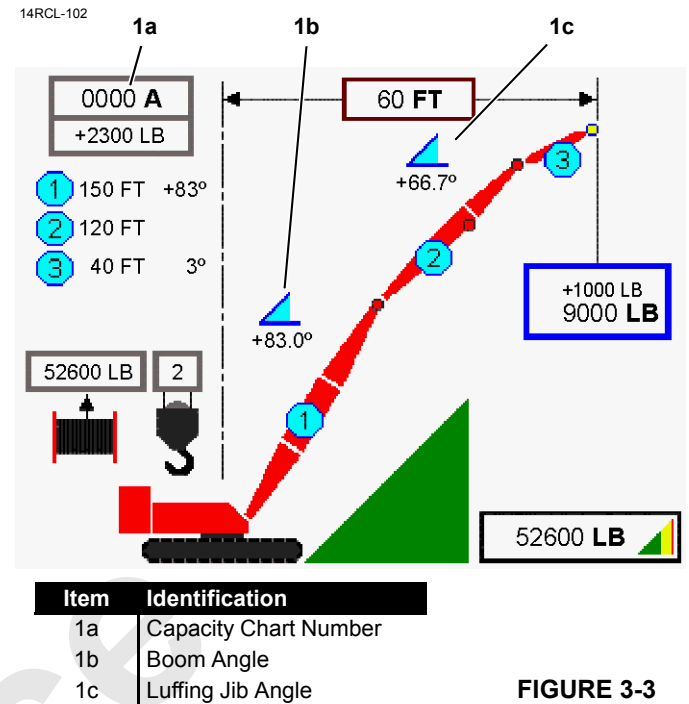

FIGURE 3-3
When selected, chart number (1a, Figure 3-3) will appear in the working screen of the display. See Luffing Jib Operator Information Manual in the cab for a complete list of luffing jib capacity charts for your crane.
Refer to item 1b, Figure 3-3.
Refer to item 1c, Figure 3-3.